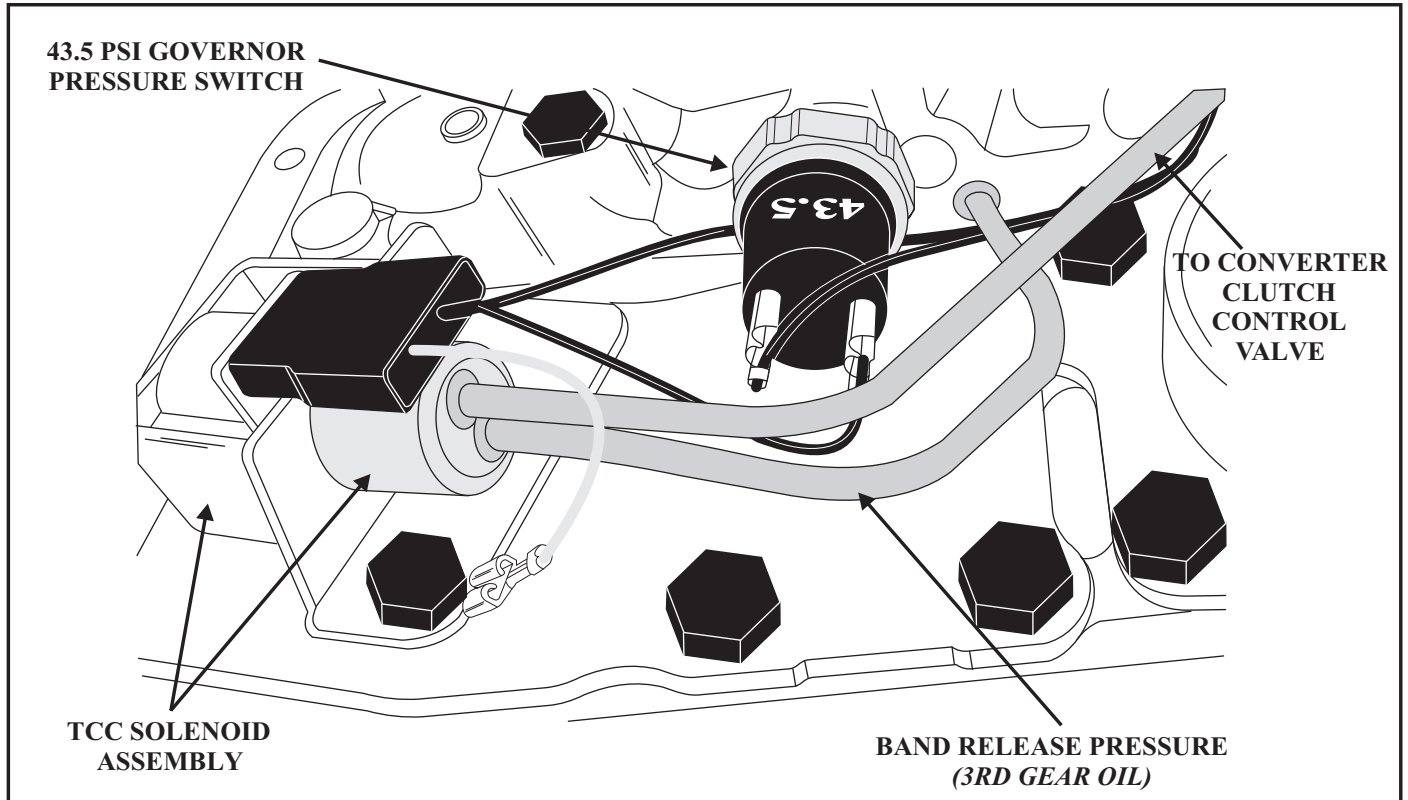
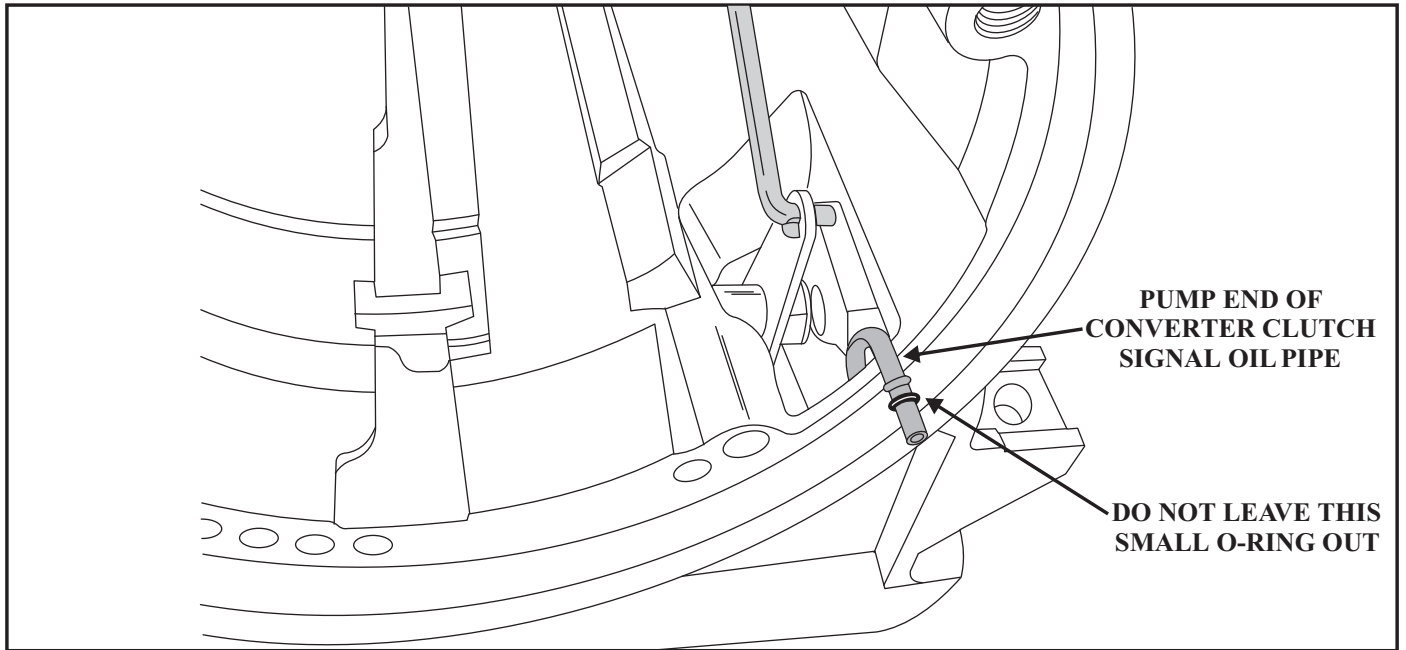

Figure 1
Figure 3
**CORRECTION:** The internal adaptation and description of the components used to control converter clutch apply can be seen in Figures 1 and 2. The bottom pipe coming from the valve body is band release pressure otherwise known as third gear oil. This ensures that the vehicle will never have TCC until 3rd gear. When the solenoid is energized this oil is routed through the upper pipe to the pump cover (Figure 3 and 4) where it strokes the converter clutch control valve into the lock up position.
In addition to the solenoid receiving 3rd gear oil, a governor pressure switch is utilized to time control (*via speed*) a voltage supply to the solenoid. In the example shown in Figures 1 and 2, it can be noticed that the pressure switch is rated to close at 43.5 psi. Also notice that the solenoid is permanently grounded. Putting this together with considering a properly operating system, 3rd gear is typically reached by approximately 35 miles per hour. This means the solenoid will have received 3rd gear oil before governor pressure is high enough to close the switch (*The idea is to prevent a converter clutch apply on top of the 2-3 shift*). Once governor pressure increases enough to close the switch (*40 mph or above*), voltage is supplied to the “already grounded” solenoid. Once energized, third gear oil is allowed to pass through the solenoid and stroke the converter clutch control valve in the pump (See the partial hydraulics in Figures 5 and 6).